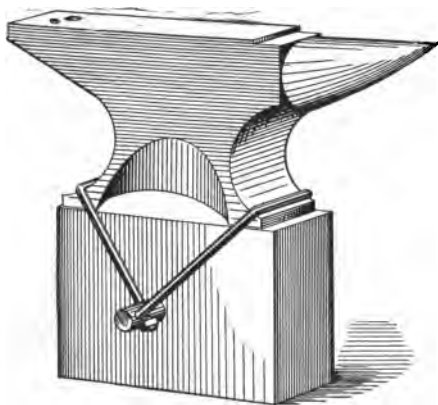

Fig. 52. Anvil Fastened to Block
*Tools.* The remaining equipment is simple. A medium size anvil, Fig. 52; two sledge hammers, medium and heavy; three, or perhaps four, forge hammers; tongs for holding round, flat, and irregular work; tools for cutting off material, both hot and cold; and finally flattening and swaging tools. Melting ladles can be placed over either coal or gas flame, and either forge can be used in melting the antifriction metals used in lining bearing boxes.